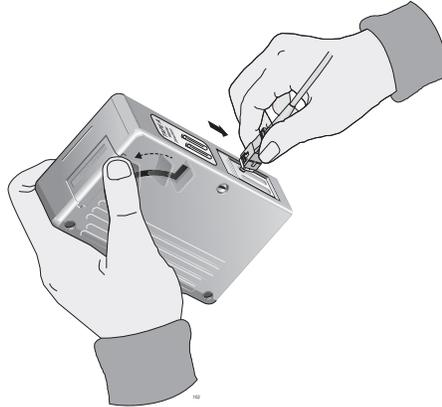

Figure 27. Rubbing the Ferrule Tip on the Cleaning Surface
1. With one hand, hold the cartridge cleaner and push the lever on the cleaning cartridge in the direction of the arrow to expose the cleaning surface, as shown in Figure 27 on page 59.
2. Place the ferrule tip on the exposed cleaning surface and rub the ferrule in a downward direction, as shown in Figure 27 on page 59.